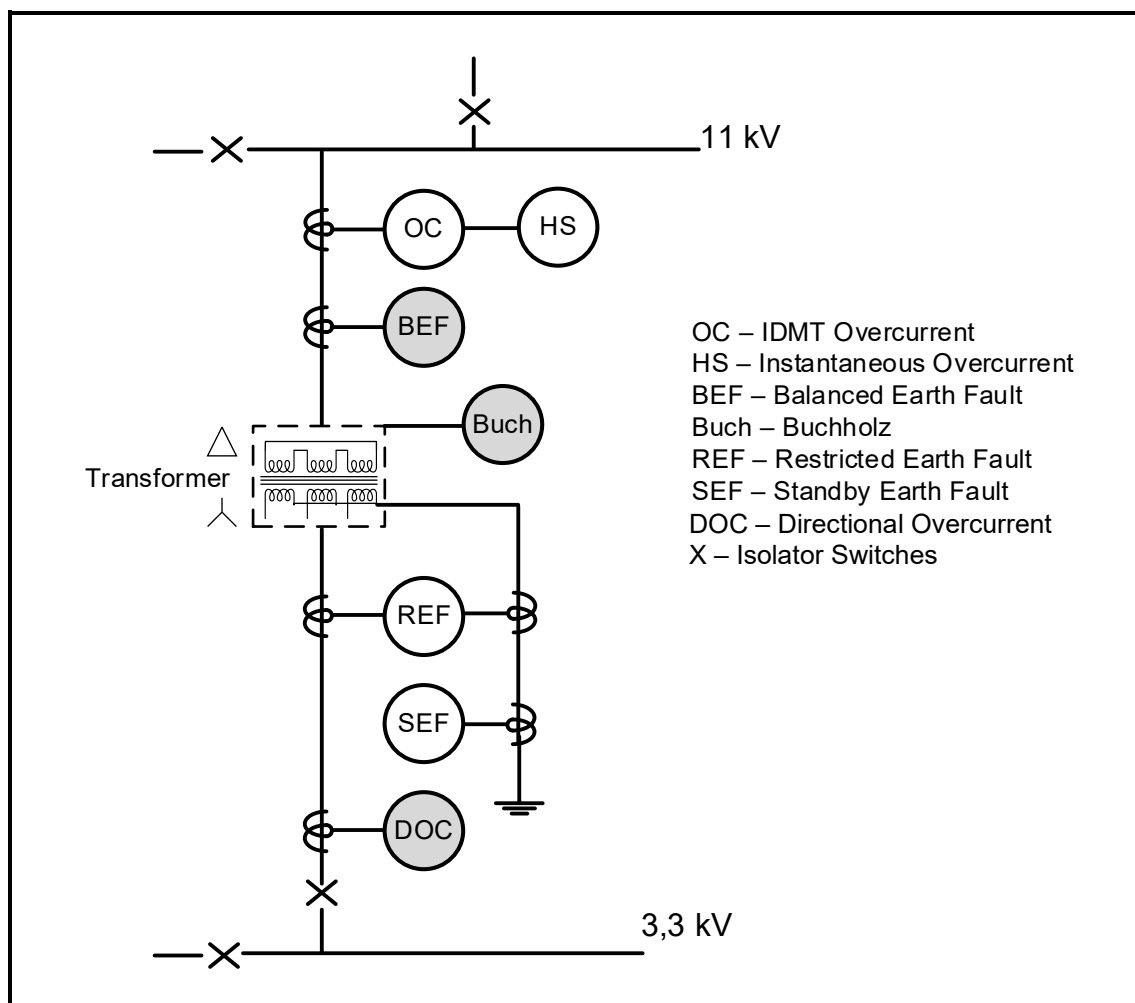

FIGURE 5.7: PROTECTION OF A TRANSFORMER IN A SUBSTATION
5.7 FIGURE 5.7 below shows a line diagram of the protection devices typically used in a substation for the transformer to operate safely. Answer the questions that follow.